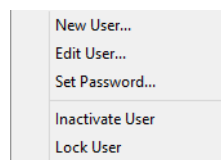

Figure 4-50: Users Tab Menu New User Option
1. Right-click in a blank area in the **Users Tab**. The Tab menu will appear (Figure 4-50).